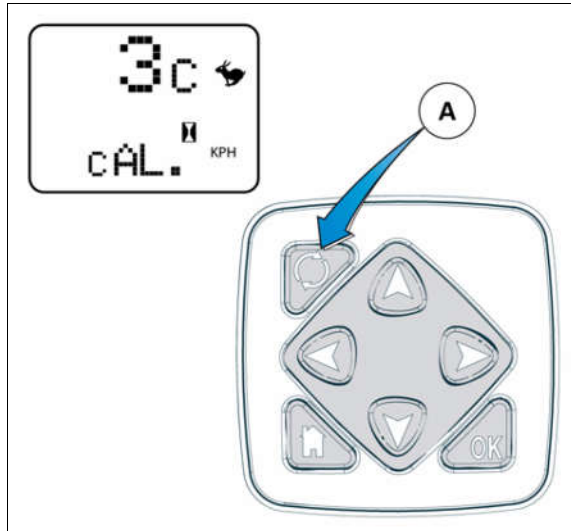

Fig. 1.
2. Start up the tractor, and then press and hold the display selector switch (A) for 15 seconds.
3. "CAL" should appear on the screen fig. 1.
5. Press the display selector switch (A) when the starting line of the 100 m (328 ft) course has been passed.